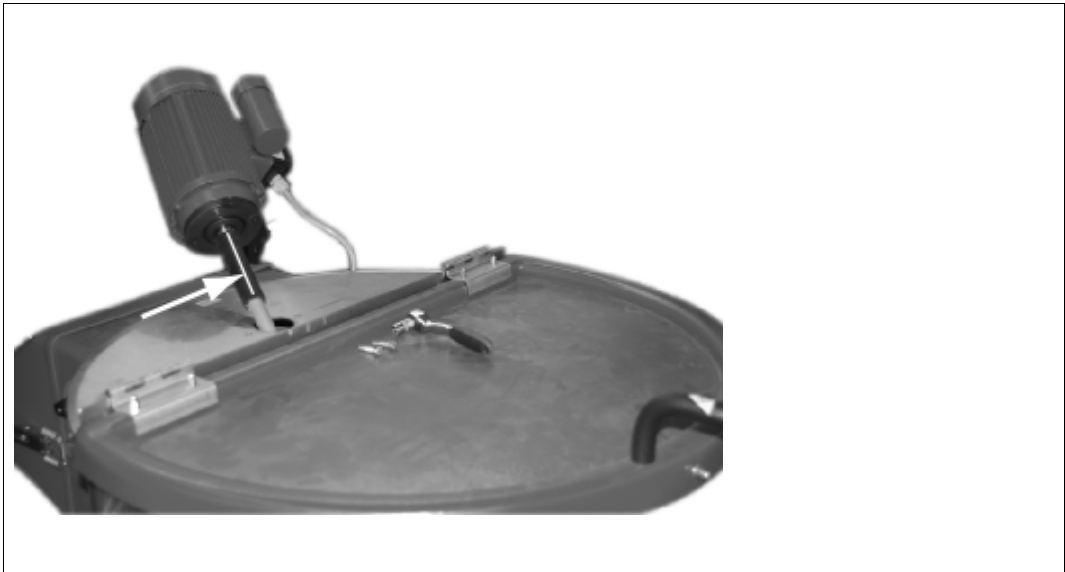

Figure 9/3: Remove slip clutch; remove motor
4. Cut open the slip clutch along the marked line (see *figure 9/3*) with a sharp knife.